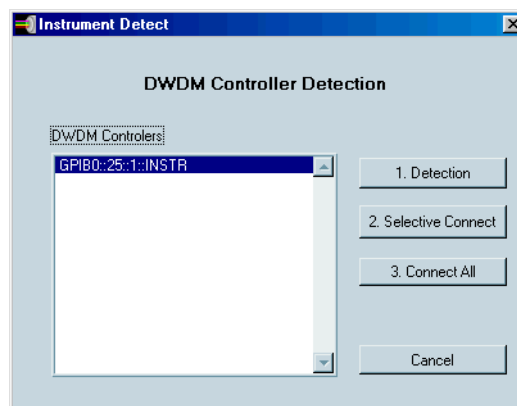

Figure 3-2. Instrument Found
2. Click on the **1. Detection** button to detect all configured instruments connected to the external controller as shown in Figure 3-2. (In this case one DWDWM Controller, `GPIB0::25::INSTR`.)